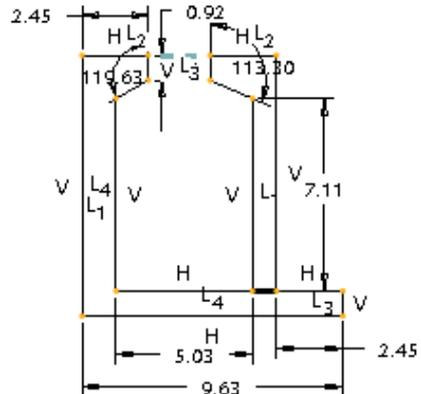

Figure 2-30 Sketch after dimensioning
- c. Dimension the required entities and then modify the dimensions of the sketch, refer to Figures 2-30 and 2-31.
8. Select the vertex that is joining lines C and D and the vertex that is joining lines J and K. Both the vertices are aligned horizontally, as shown in Figure 2-30.
Figure 2-30 shows the sketch after applying dimensions. If your sketch does not have all dimensions shown in this figure, apply them by using the **Normal** button.